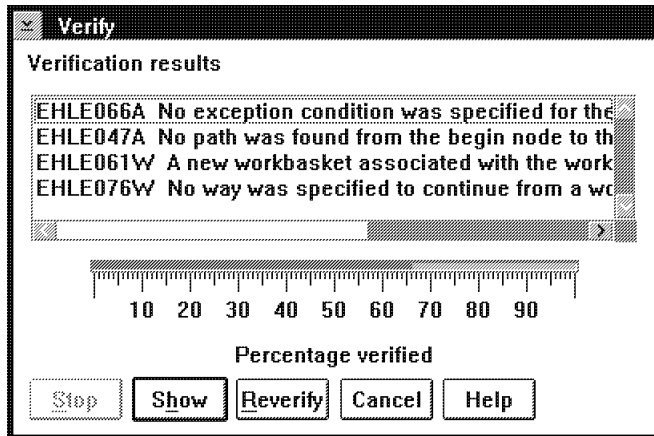

Figure 41. Verify Window
1. Select **Verify diagram** from the **Work process** pull-down. You see the Verify window shown in Figure 41 on page 78.